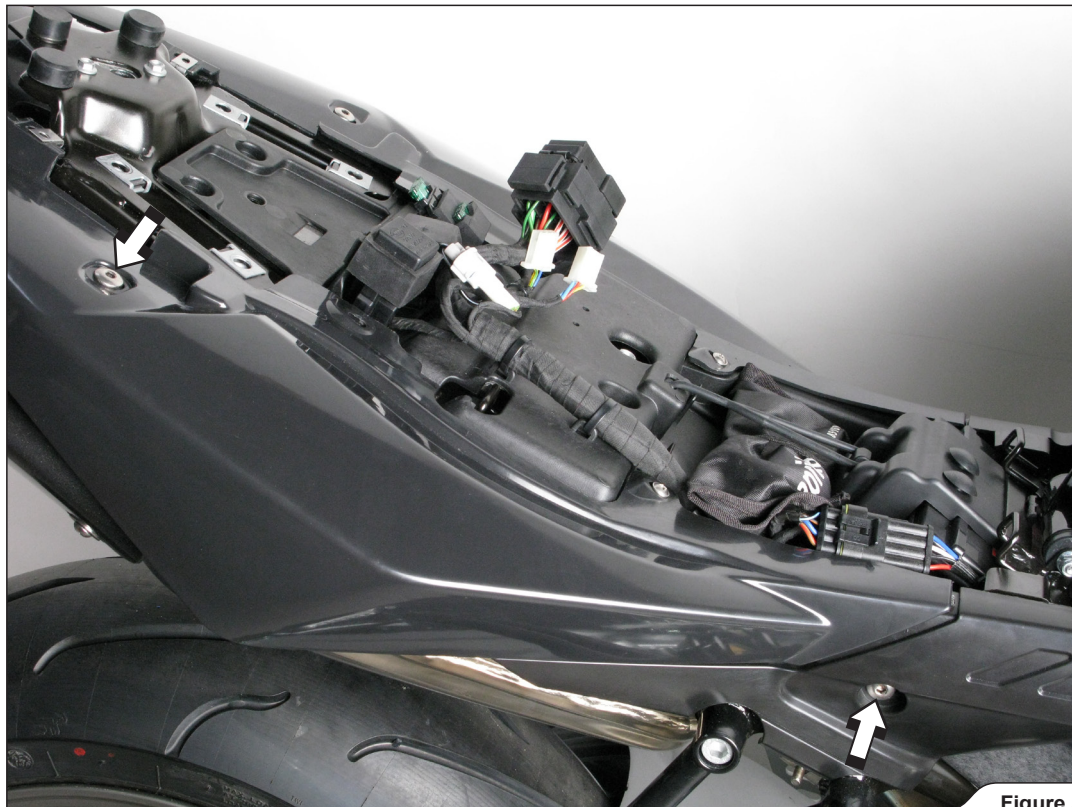

Figure 5
5. Unscrew the marked bolts on both sides of the motorcycle. Unhook the seat lock cable from the left side muffler cowling and remove the muffler cowlings from the motorcycle (Figure 5, 6).